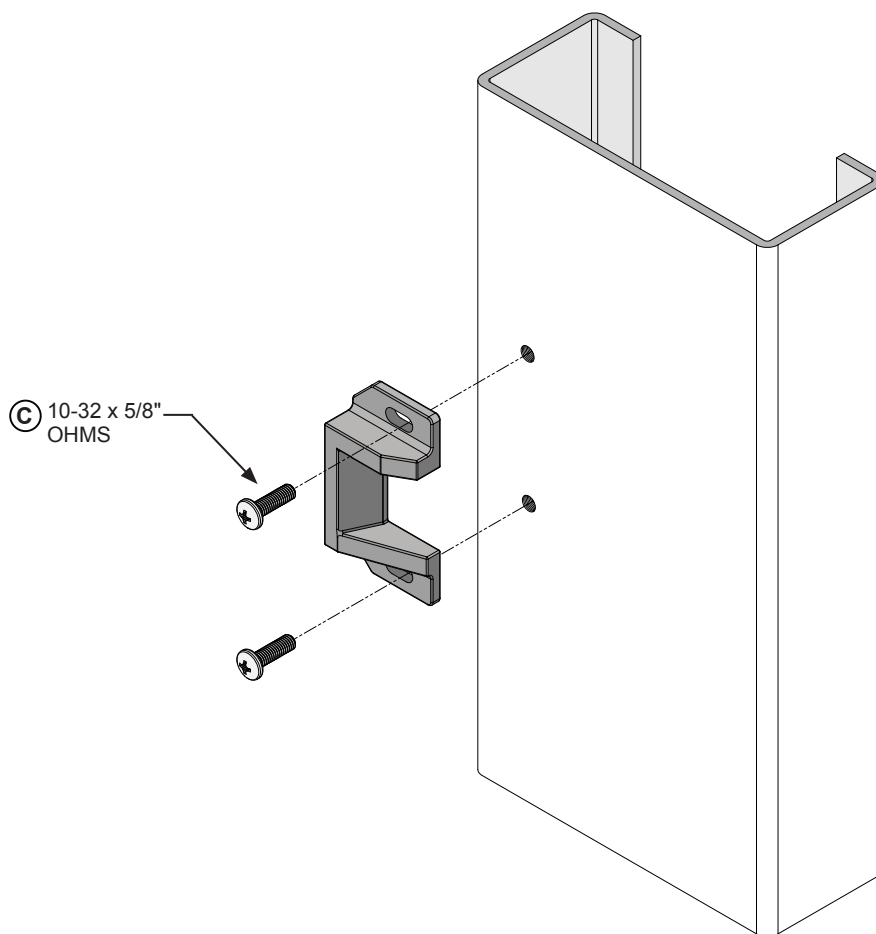

FIG. 13
Drill and tap for © (2) 10-32 x 5/8" OHMS on the marks made in step 3 of the frame preparation on page 12. Attach the strike to the door jamb using © (2) 10-32 x 5/8" OHMS. (Fig. 13)